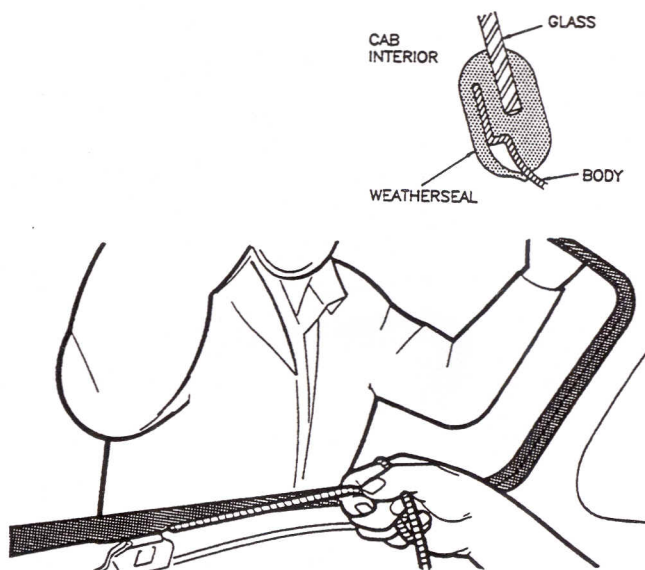

Figure 3
3. Place the windscreen into position on the outside of the cabs windscreen aperture. Check that the weatherseal flash mark is at the top centre of the aperture and that the engraving of "LAMINATE" is readable from outside. Whilst being held firmly in position a second person should pull the cord steadily out of the weatherseal enabling it to take up an assembled position. See Figure 3.